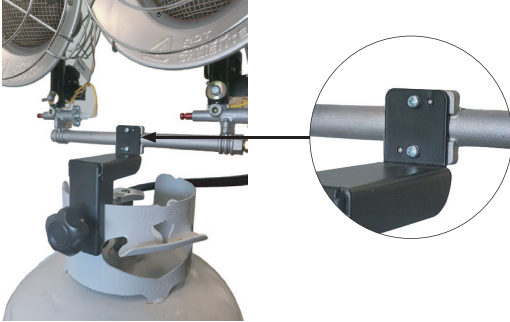

Figure 5
- Align the bolt holes in the tank collar bracket with the bolt holes located in the center plate of the manifold. Using the previously removed screws, secure the center plate manifold to the collar bracket. NOTE: The heater MUST be facing away from the tank once it has been attached to the collar bracket. Make sure that tip switch bracket is between the tank collar bracket and the manifold center plate. (See Figure 5)